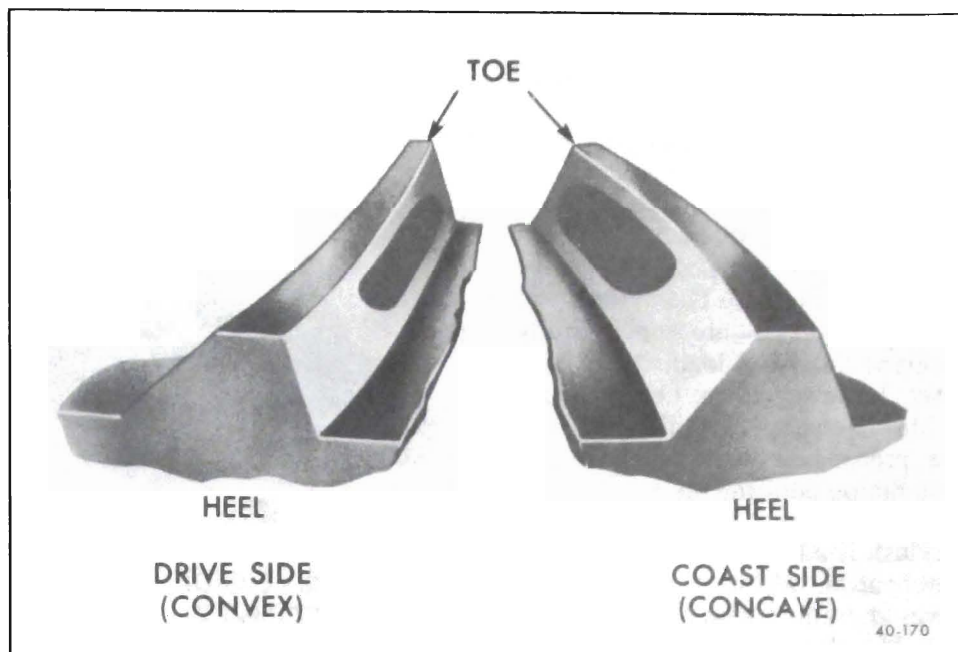

Figure 40-115 - Gear Tooth Nomenclature
5. Observe pattern on ring gear teeth and compare with Figures 40-115 and 40-116.